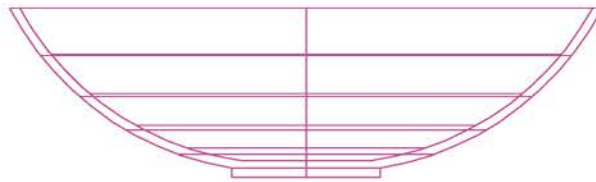

Fig. 11.18 Second example 3D Mirror – the 3D model
1. Construct a solid of revolution in the shape of a bowl in the **Front** view working on a layer of colour **Magenta** (Fig. 11.18).